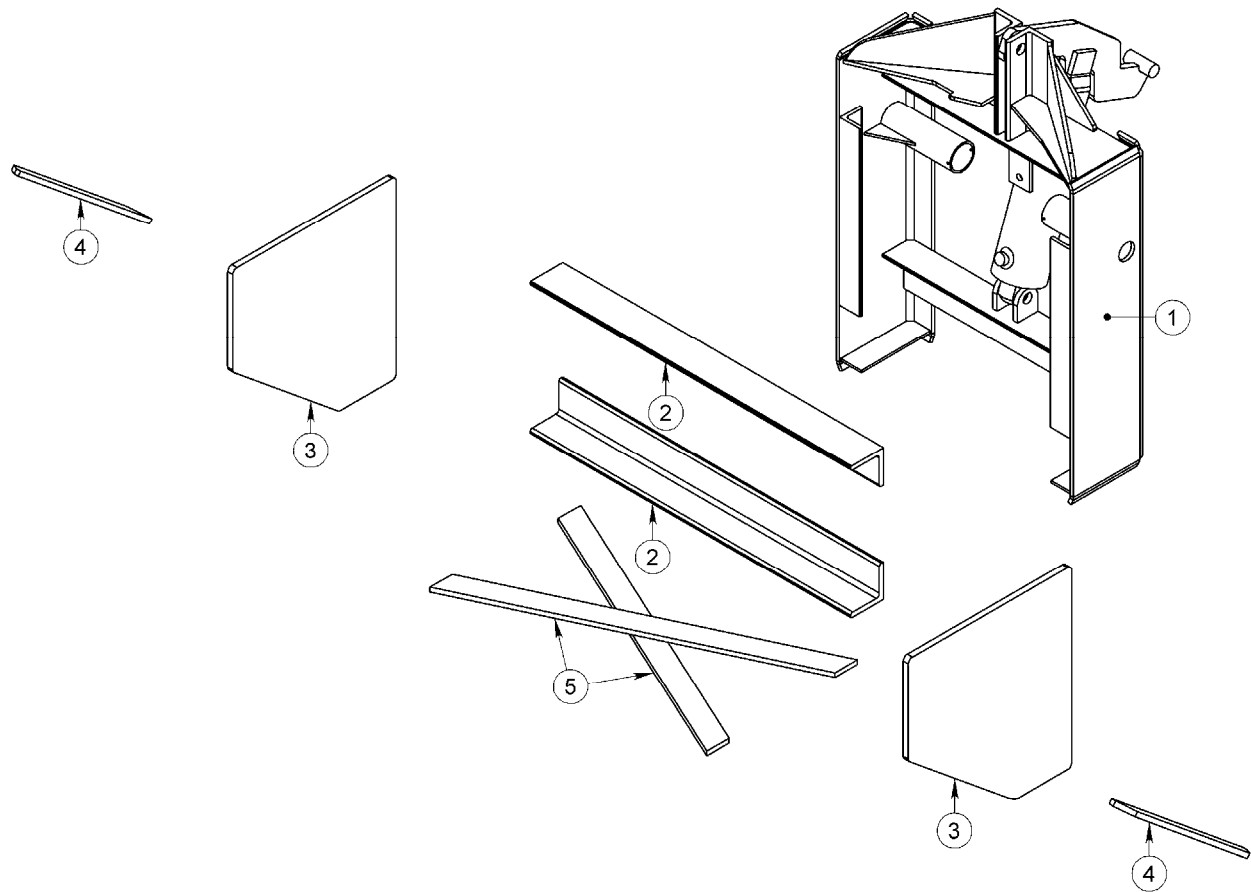
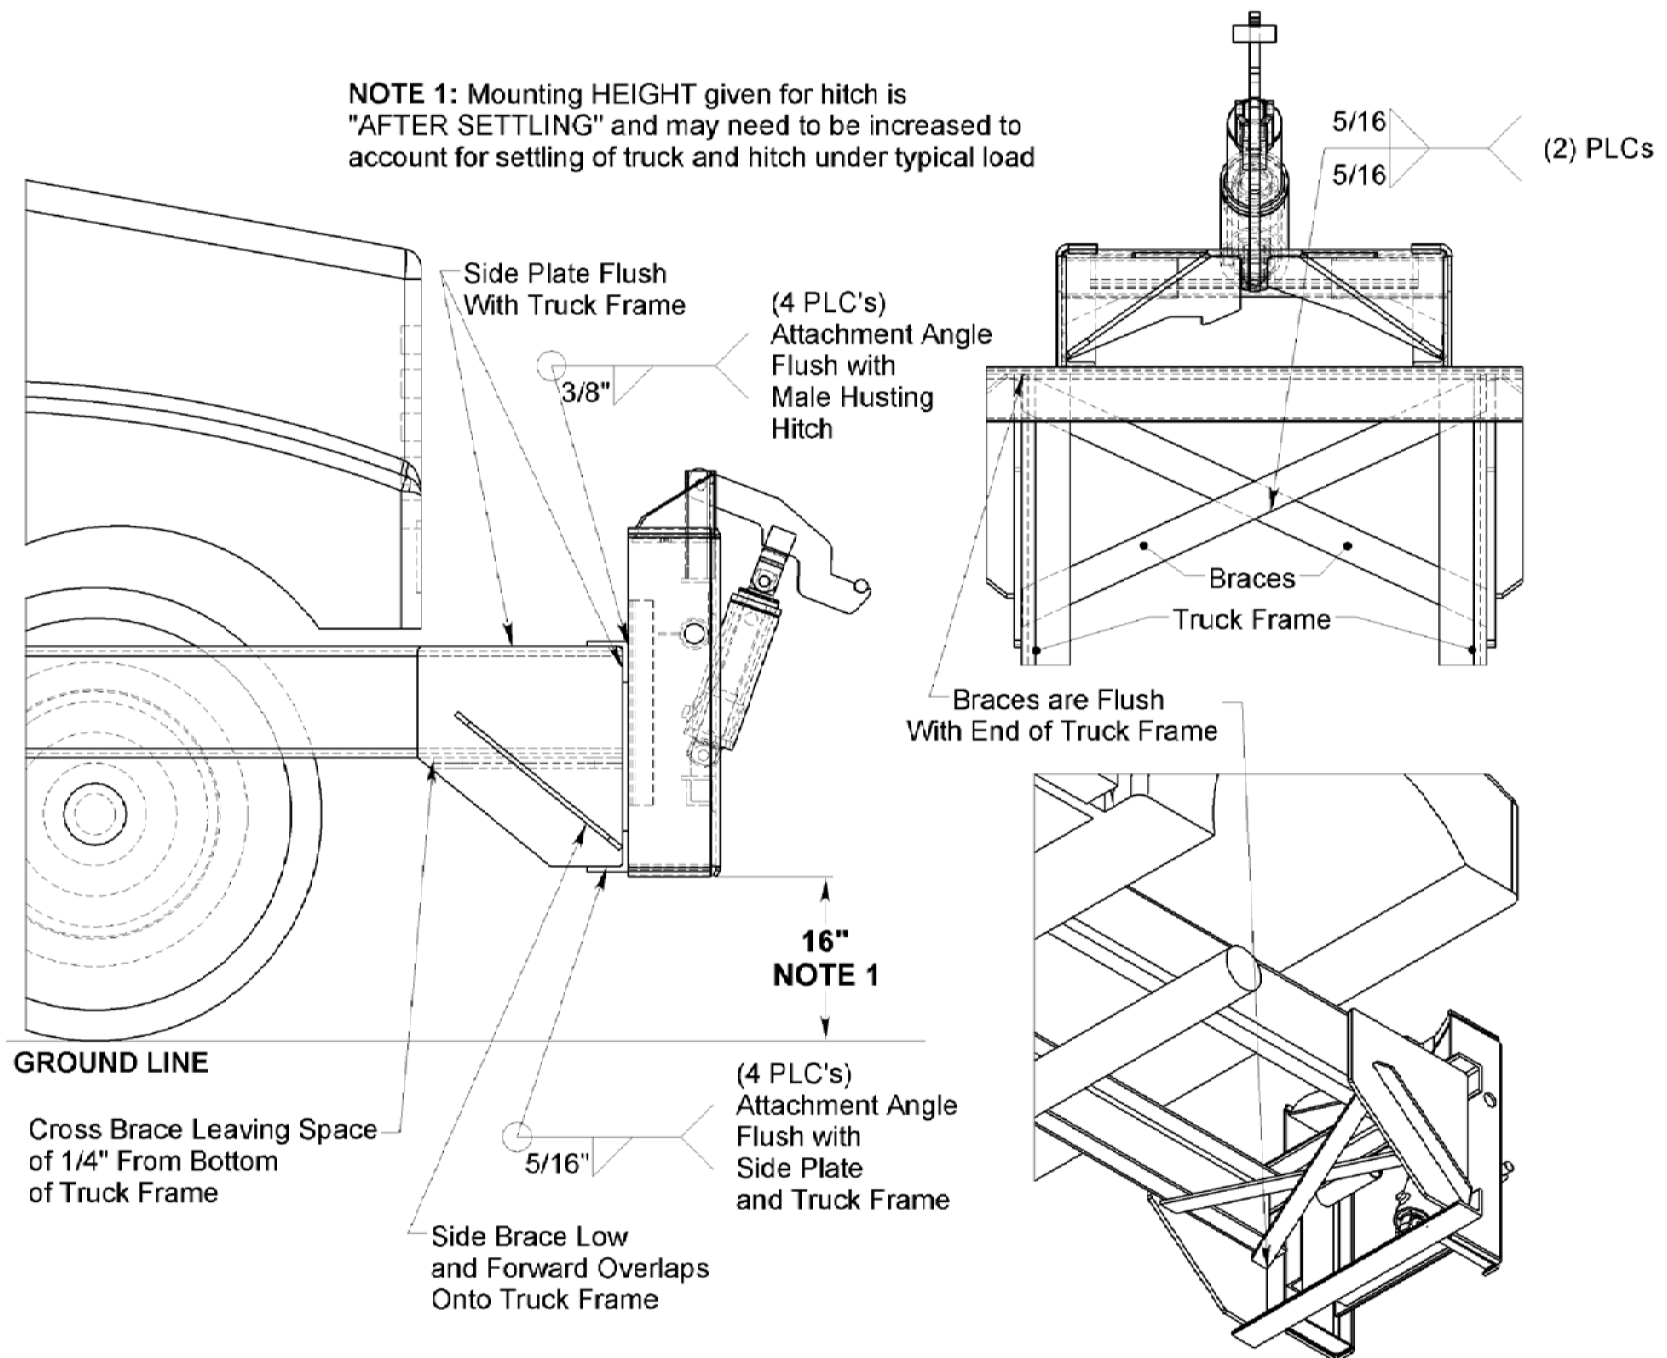

FIGURE 3-3 – Typical Sideplate Attachment, Parts View
FIGURE 3-4 – Typical Side Plate Mounting of Husting Hitch
1. Determine method for mounting hitch to front of frame. The hitch must be securely attached to the front of the frame rails using the heavy-duty structural members provided. See Figures 3-3 and 3-4, and Table 3-2.
2. Refer to the attached installation drawing (Figure 3-4) and exploded view (Fig. 3-3) for additional information.
4. Mount the sideplates (Item 3, Fig. 3-3) to the outside of the truck frame rails. They should be flush with the top and front of the frame rails. Verify sideplates are in a position that will locate the hitch vertically.
5. Bolt the sideplates to the frame, using a minimum of (8) 5/8" Grade 8 bolts, (8) hardened washers, and (8) toplock nuts per sideplate. Try to use as many existing bolt holes as possible. Avoid locating bolts near the very top or very bottom of the frame rails. Do not weld to the truck frame rails. Torque all toplock nuts per section tables 4-1 & 4-2.
6. Center each mounting angle (Item 2, Fig. 3-3) left-to-right, each laying horizontally and flush against top and front (or bottom and front) of both side plates. Weld each mounting angle flush against top (or bottom) and front of side plates, using continuous 5/16" minimum fillet welds all around (see Figure 3-4).
7. Position (2) Cross Braces (Item 5, Fig. 3-3) and (2) Side Braces (Item 4, Fig. 3-3) as shown in Figure 6 as close as possible. Tack weld in place. DO NOT weld to Truck Frame. Fully weld all around using continuous 5/16" minimum fillet welds. (Be sure to remove any paint from parts as necessary before welding.) NOTE: You should leave 1/4" vertical space between Truck Frame and Top Cross Brace to avoid trapping moisture.